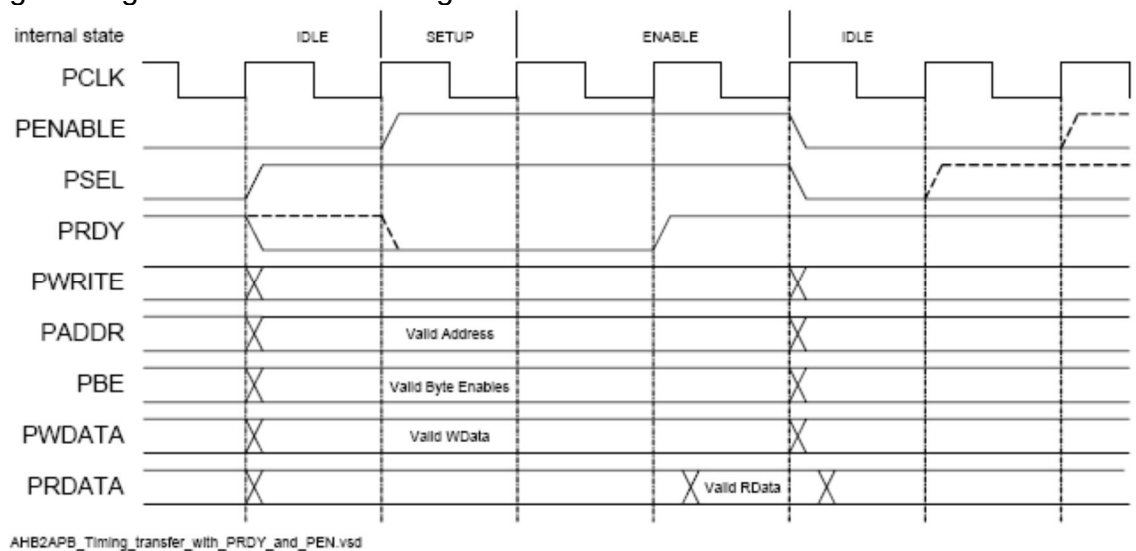

Figure 8: APB bridge, timing
- Expanding the AMBA 2.0 - APB specification, the AHB_APB_Bridge provides the option of using a variable timing of APB accesses. By introducing a ready signal, wait states can be implemented. The standard AMBA-APB bus is expanded by the PRDY sideband signal (see Figure 8: APB bridge, timing with sideband signals PRDY and PBE).
- Expanding the AMBA 2.0 - APB specification, the AHB_APB_Bridge provides the option of using "byte enables" on APB bus. Therefore the standard AMBA-APB bus is expanded by the sideband signals PBExx which exist in parallel to PADDR, i.e. PADDR and PBE timing are identical (see Figure 8: APB bridge, timing with sideband